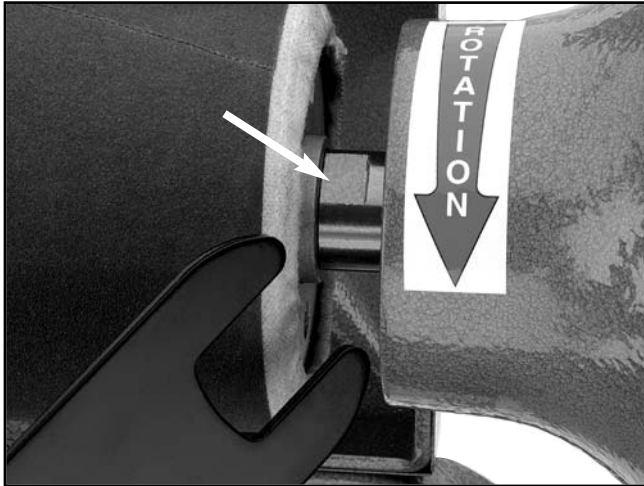
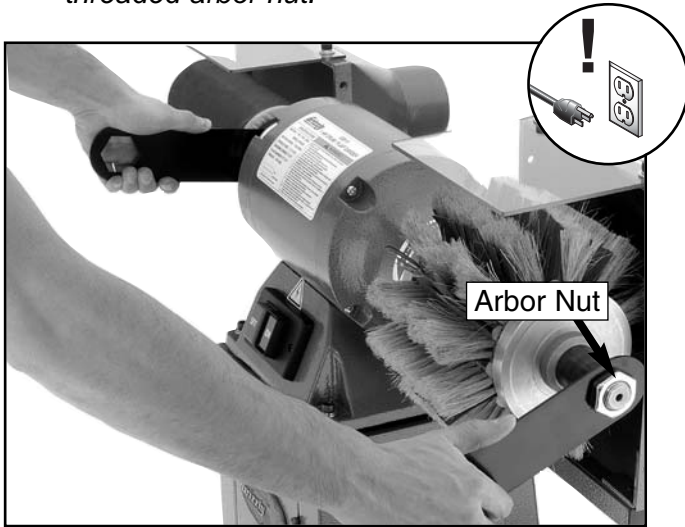

Figure 11. One side of the arbor “flat.”
Figure 17. Tightening the flap sander arbor nut.
Slide the arbor wrench over the “flat” on the arbor when loosening or tightening the arbor nuts. **Figure 11** shows the location of the arbor “flat.”
- Using the two arbor wrenches, tighten the arbor nut to secure the flap sander onto the arbor as shown in **Figure 17**. Note—Use the arbor “flat” shown in **Figure 11** when using the arbor wrenches to tighten the left-hand threaded arbor nut.